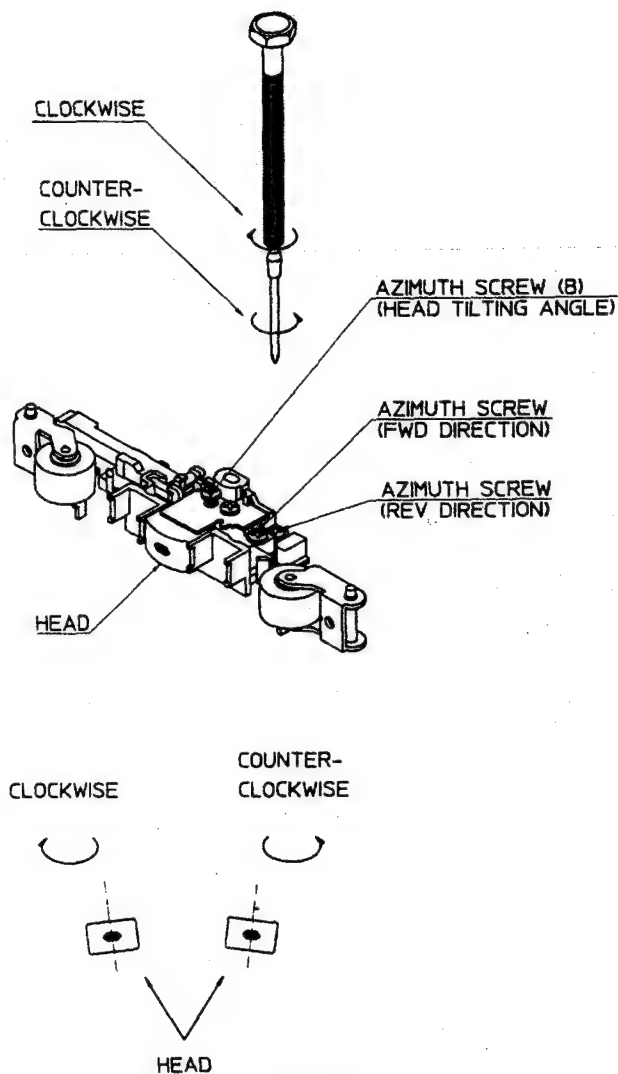

Figure 1
1. Azimuth (Fig. 1 - next page)